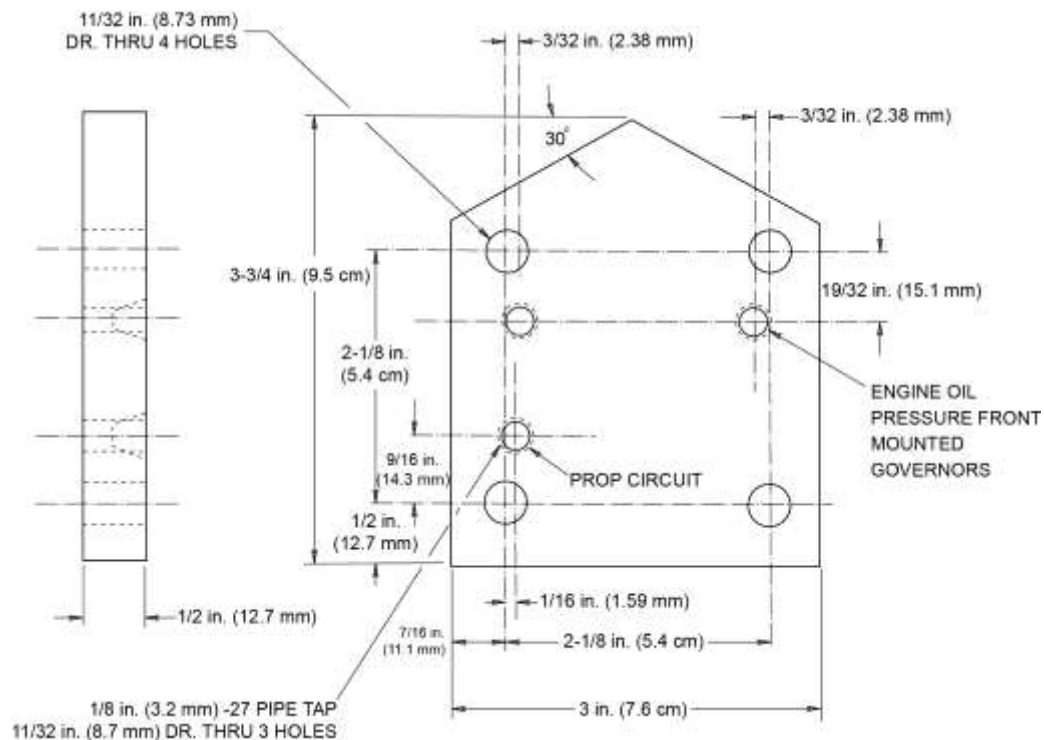

Figure 102
NOTICE: In the following steps, to prevent an air leak, use a propeller governor gasket P/N 72053 with test plate P/N ST-483 (Figure 102). Refer to the latest revision of Service Instruction No. 1462 for any updates.
- (2) Install the gasket and the test plate P/N ST-483, or equivalent on the governor pad with the air fitting in alignment with the governor oil passage that goes to the front bearing (forward hole) or left side of the mounting facing the pad. Refer to Figure 102.
- (3) Connect a calibrated oil pressure gauge (0 to 100 psi) (0 to 689 kPa) to the appropriate engine oil pressure port on the test plate for your governor location. Install a plug in the propeller circuit and unused engine oil pressure circuit port.
- (4) Start and warm-up the engine until the oil temperature is within the correct operating range (Appendix A of the *TEO-540-C1A Engine Installation and Operation Manual*.)